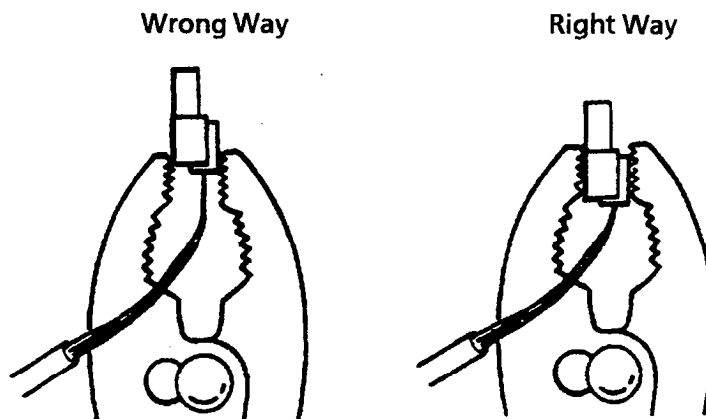

Figure 2-69 Holding the Connector with the Pliers
2. Lightly hold the connector with the pliers. In this case, make sure that the crimping portion is held between the lower portion of the jaws of the plier. Refer to Figure 2-69- Holding the Connector with the Pliers.